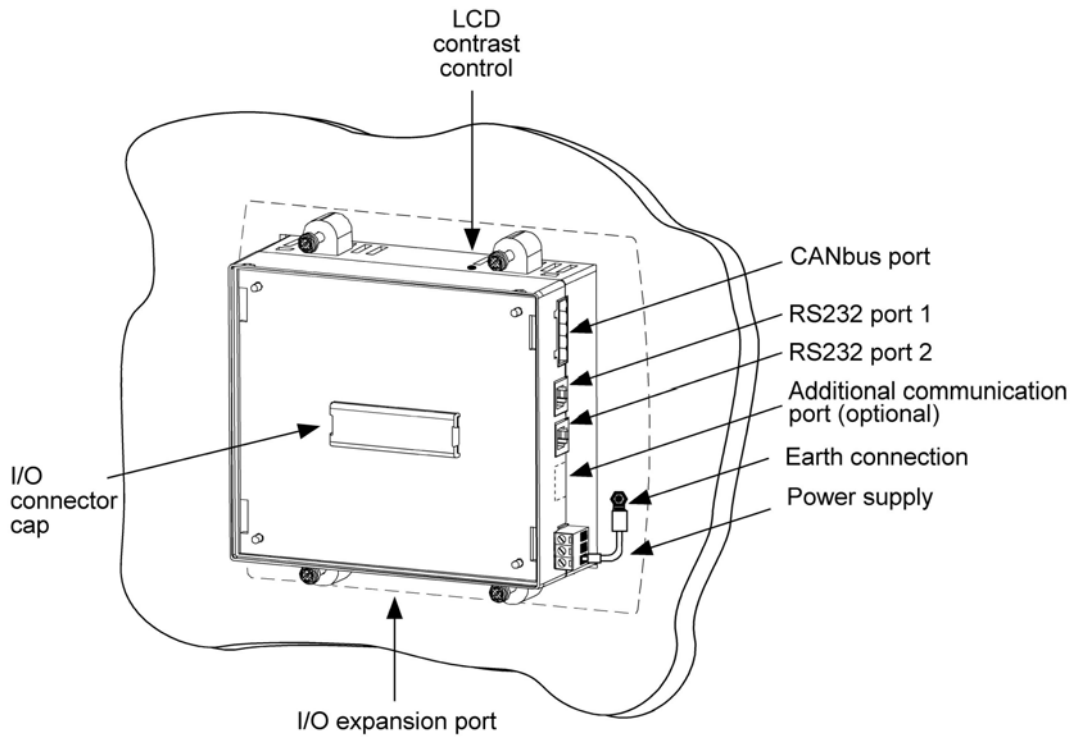
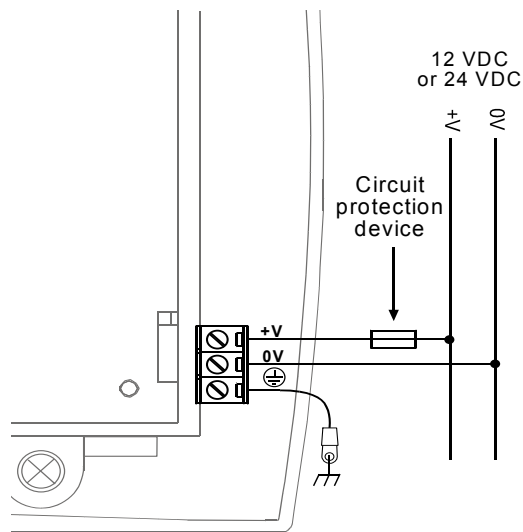

Figure 6. Panel Mounted—Rear View
Figure 7. Power Supply Wiring
To maximize system performance, avoid electromagnetic interference by mounting the controller on a metal panel and earthing the power supply according to the details in Figure 7, page 16.
The controller requires an external 12 or 24VDC power supply. The permissible input voltage range is 10.2-28.8VDC, with less than 10% ripple. You must use an external circuit protection device as shown in Figure 7, page 16.
- Earthing the controller's power supply by connecting the chassis signal to the panel as shown in Figure 6, page 14, and connecting the tapered end to the power supply as shown in Figure 7 above.
1. Pry the cap, shown in Figure 6, page 14, off using the blade of a screwdriver.
An adapter enables you to integrate I/O Expansion Modules into the system. You plug an I/O expansion cable into the appropriate port located on the bottom of the controller, connect the cable to the adapter, and then plug I/O Expansion Modules into the adapter. Exact instructions are provided with the adapter and I/O Expansion Modules. The location of the I/O Expansion port is shown in Figure 6, page 14.
The RS232 interface is via RJ-11 type serial ports located on the side of the controller, shown in Figure 6, page 14.
The CANbus port is located on the side of the controller, as shown in Figure 6, page 14. Via this port, you can create a decentralized control network of up to 63 controllers. This is sometimes called a multi-master network. In such a network, CANbus enables inter-PLC data exchange.